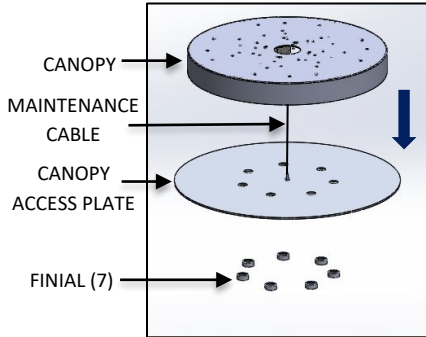

FIG. 5 – CANOPY ACCESS PLATE DIS-ASSEMBLY
1. Dis-assemble the FINIAL (7) and leave the canopy access plate supported by the maintenance cable attached to the canopy ASSEMBLY and feed the building supply wire into the hole in the CANOPY as it is raised up to the ceiling as shown in below fig. 5.